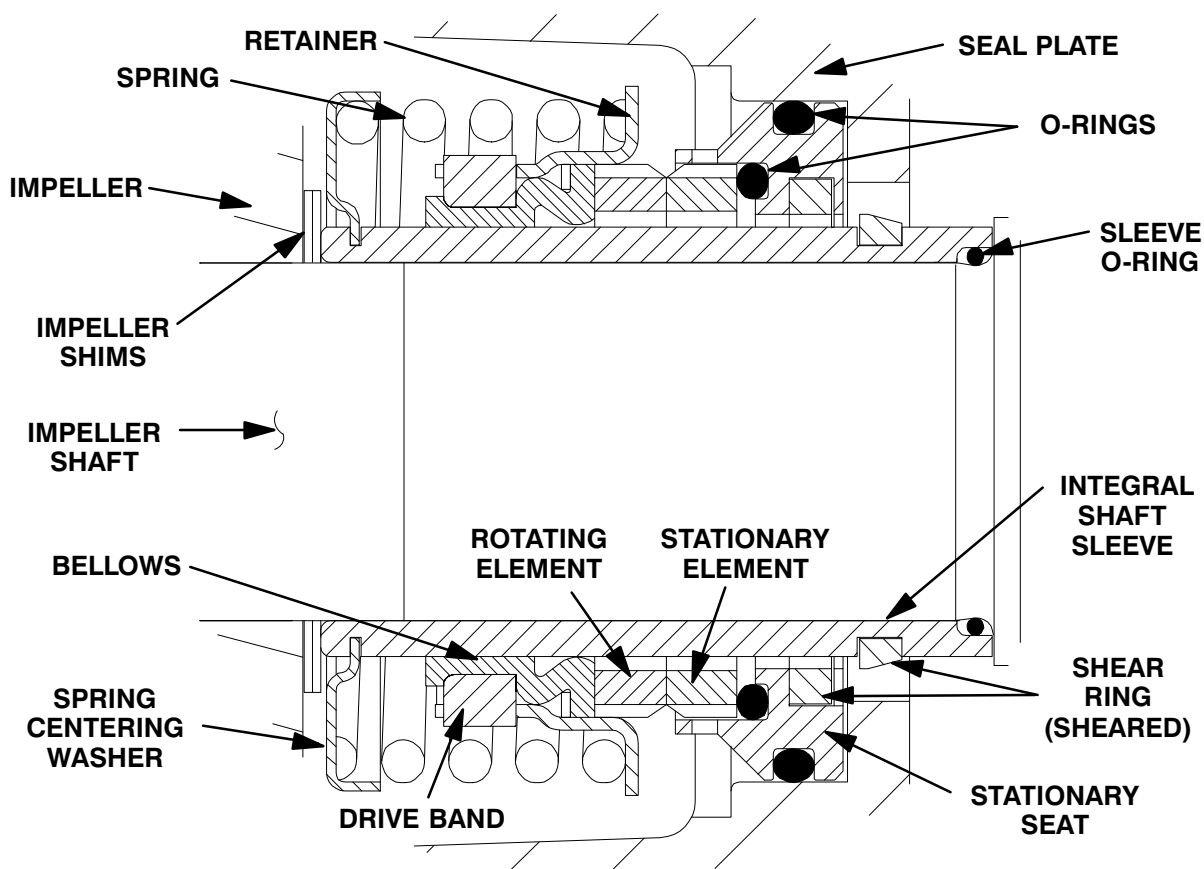

Figure 11. Cartridge Seal Assembly
To ease installation of the seal, lubricate the shaft sleeve O-ring (14) and the external stationary seat O-ring with a very **small** amount of light lubricating oil. See Figure 11 for seal part identification.